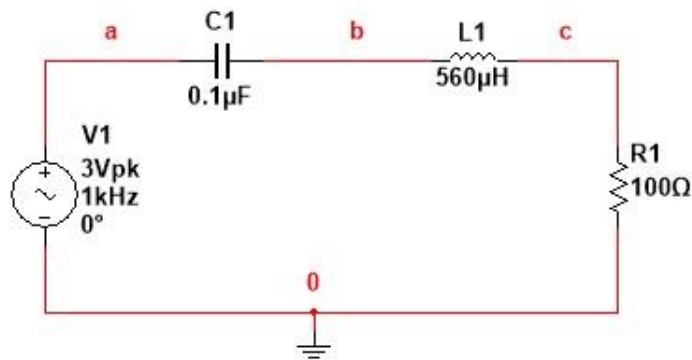

Fig.B.1.1: Series RLC circuit
- Measure the practical value of the capacitor (C) using an LCR meter and note down the value in Tables 1.1. Do the same for the inductor (L).
- Construct the circuits shown in Fig.B.1.1 on the bread board. Connect Channel 1 of the oscilloscope across the source VS (positive red port to node 'a' and negative black port to node '0' i.e. ground).